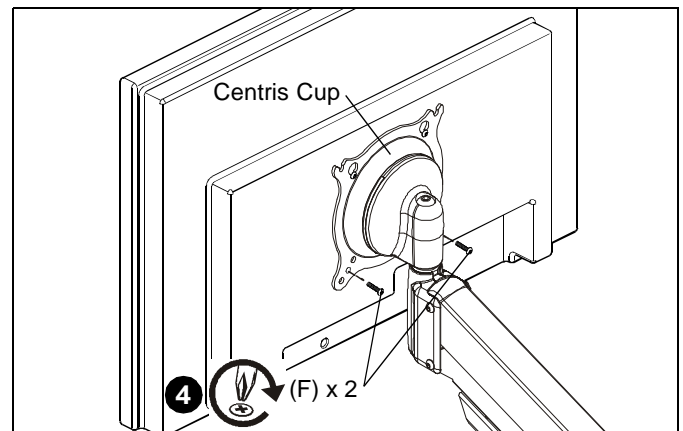

Figure 7
- Install two M4 x 12mm Phillips head cap screws (F) through the *lower* mounting holes in Centris cup into the display. (See Figure 7)